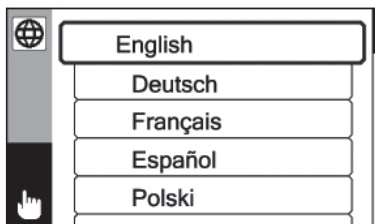

Fig. 12: Language
- Language of user interface² (fig. 12)